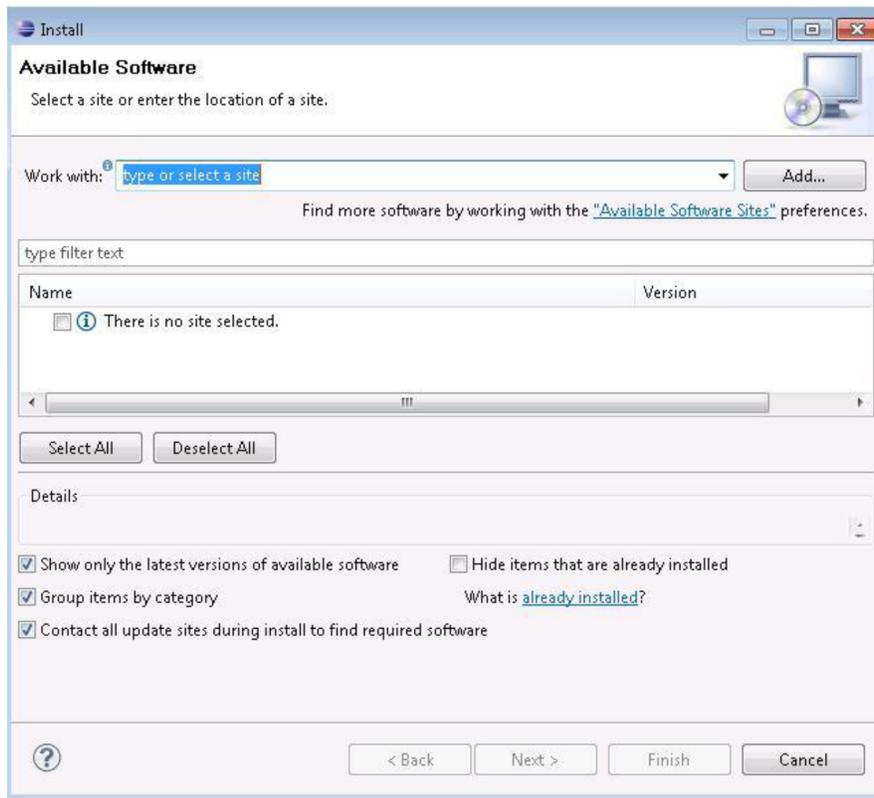

Figure 1. Eclipse IDE (Windows)
2. Start the Eclipse IDE. If on Windows 7, make sure that Eclipse is run as administrator to allow for the new installations. If the Welcome screen is shown, click on the Workbench icon to open the workbench. Then, click Window → Open Perspective → Other... and select the C/C++ perspective. Navigate to Help → Install New Software (see Figure 1).